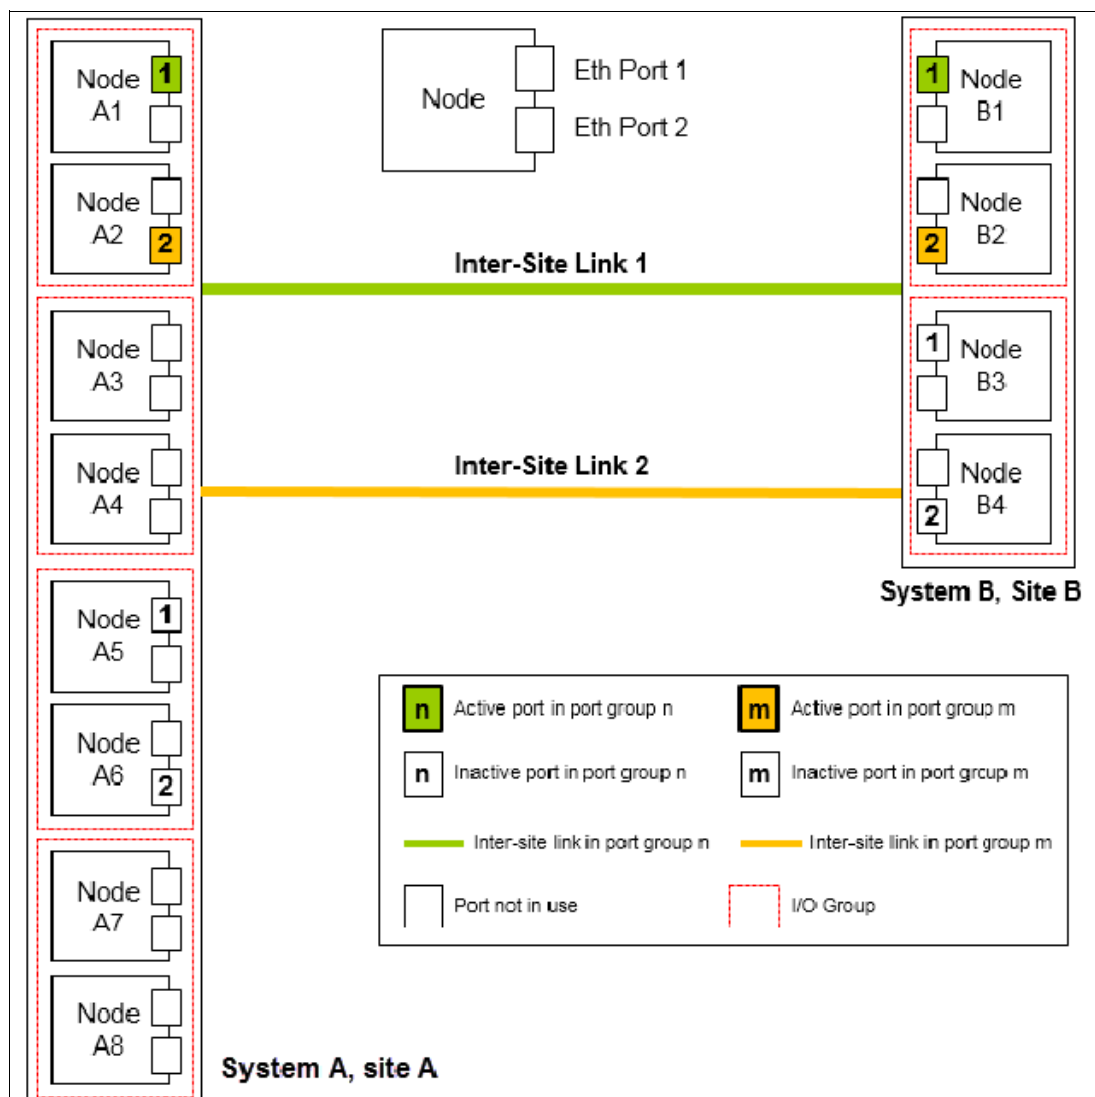

Figure 10-104 Multinode systems with dual inter-site links between the two systems
- Eight-node system in IP partnership with a four-node system over dual inter-site links, as shown in Figure 10-104 on page 783 (configuration 7).
As shown in Figure 10-104, an eight-node System A in Site A and a four-node System B in Site B is used. Because a maximum of two I/O groups in IP partnership is supported in a system, although four I/O groups (eight nodes) exist, nodes from only two I/O groups are configured with RC port groups in System A. The remaining or all of the I/O groups can be configured to be RC partnerships over FC.